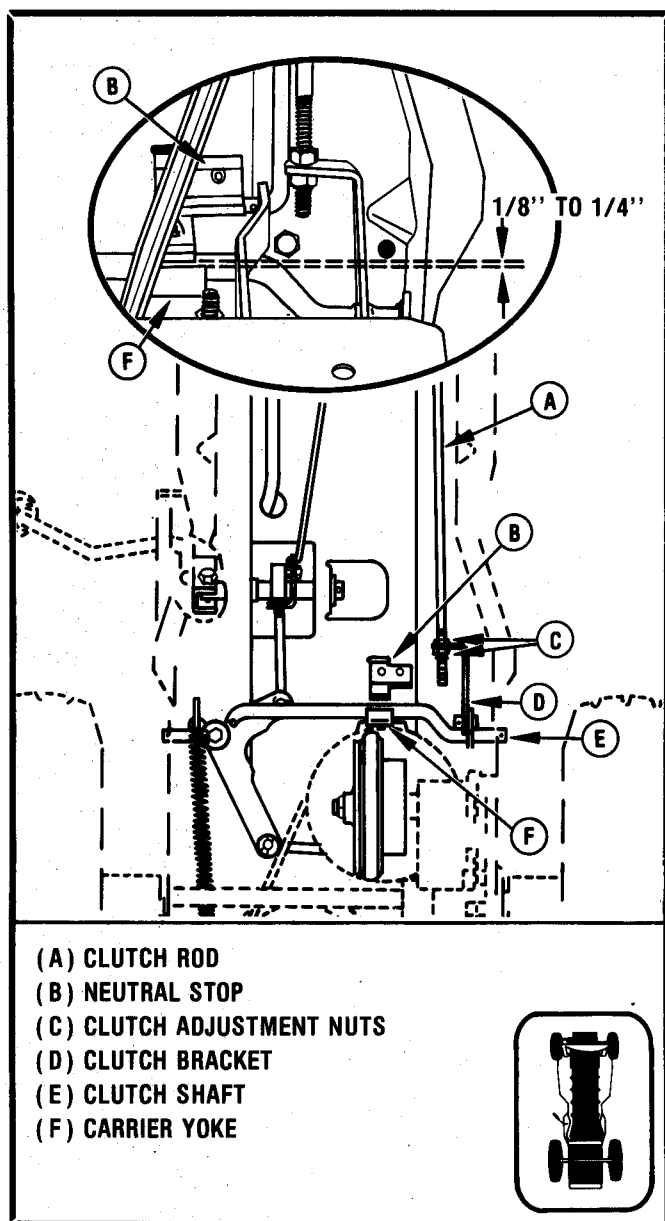

FIGURE 1-1
CLUTCH AND BRAKE ADJUSTMENT — FIGURES 1-1, 1-2, AND DIAGRAMS A AND B
4. Adjust the double nuts on the clutch rod until the carrier yoke clears the neutral stop by 1/8" to 1/4". See Figure 1-1 and Diagram A.